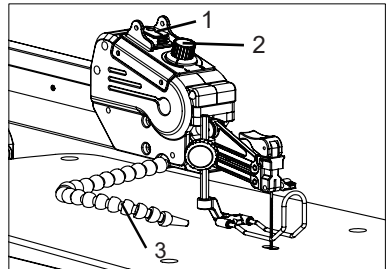

FIGURE 4
For best results, the dust blower tube (Fig. 4, 3) should be adjusted to direct air at both the blade and the workpiece.
1. To turn the saw on, flip the I/O switch (Fig. 4, 1) to I. When first starting the saw, it is best to move the speed control knob (2) to the middle speed position.